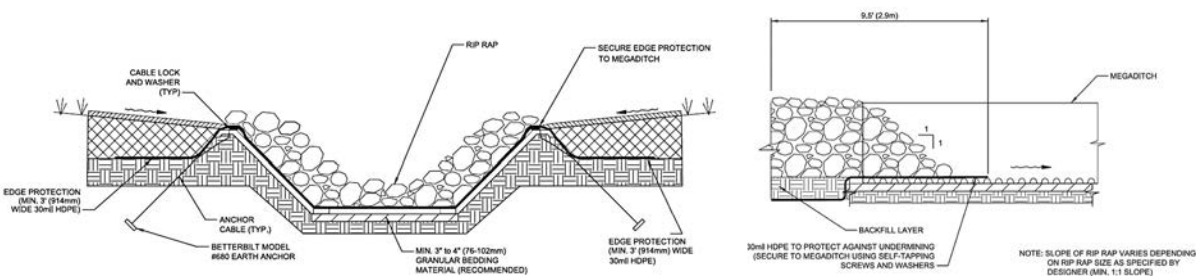

Figure 22
- Buried MegaDitch extensions, see **Figure 22**.